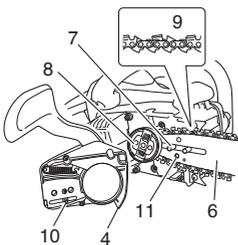
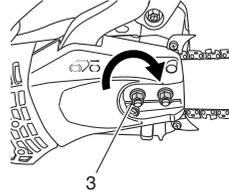

Fig. 5
Fig. 6
3. Install the guide bar (6) onto the bolts (7), then push it toward the sprocket (8) as far as it will go. (Fig. 5)
4. Confirm the direction of saw chain (9) is correct as in the figure, and align the chain on the sprocket (8). (Fig. 5)
5. Guide the chain drive links into the bar groove all around the guide bar (6).
6. Install the side case (4) onto the bolts (7). Make sure that the boss of chain tension adjust bolt (10) fits into the hole of the guide bar (11). (Fig. 5) Then tighten the guide bar clamp nuts (3) by hand that allows the guide bar end to move up and down easily. (Fig. 6)